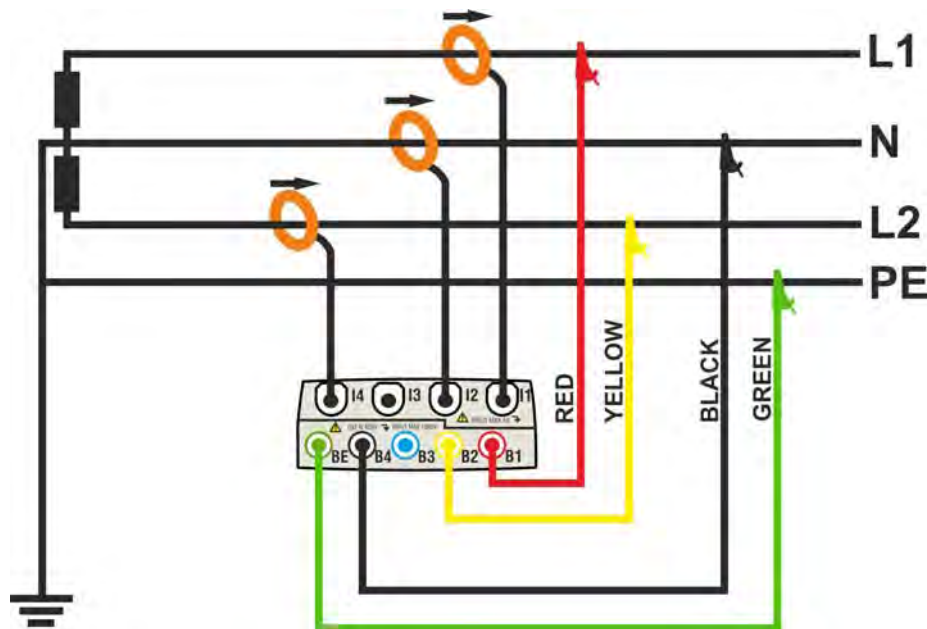

Fig. 147: Meter connection in a two phase 3-wire 1PH3W system – ENG\_UK type
2. Connect voltage test leads on Phases L1, L2, N and PE cables considering the colours as shown in Fig. 147
3. Connect the transducer current clamps on Phase L1, L2, N cables as shown in Fig. 147 respecting the clamp's arrow direction indicating the current standard sequence from generator to load. **On Real Time Values' section screens (selecting a 3 wire system preliminarily) always verify the positive value of Active Power and the power factor relative to load which should be normally inductive** before starting a recording. Reverse the clamp by 180 degrees on cables in case of negative readings.